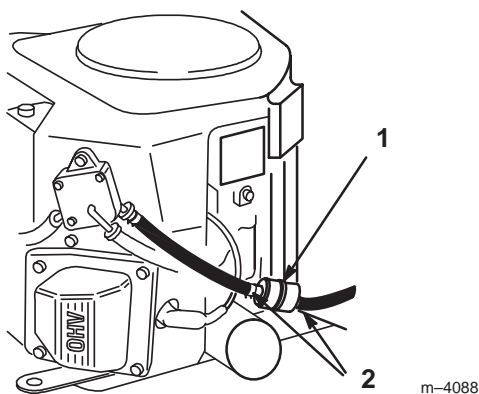

Figure 40
3. Squeeze the ends of the hose clamps together and slide them away from the filter (Fig. 40).